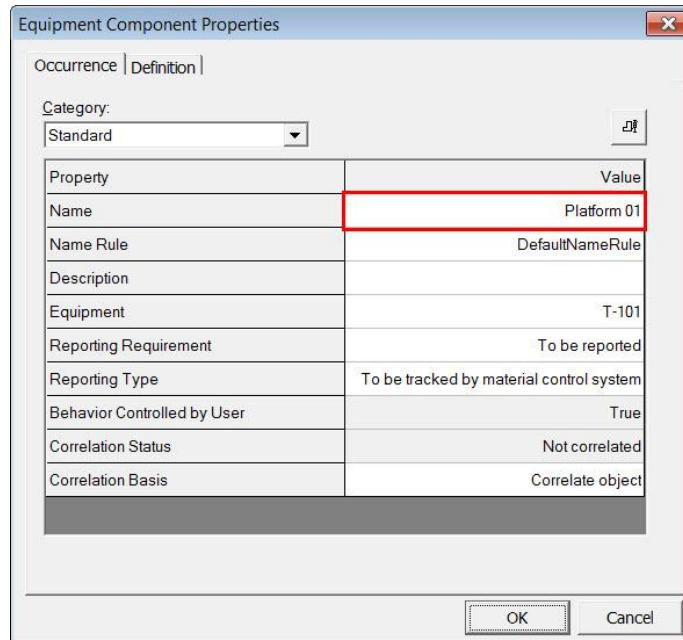

Figure 4. 21: Name Field
10. Switch to the Position and Orientation category of properties and key in the values as shown in Figure 4. 22.